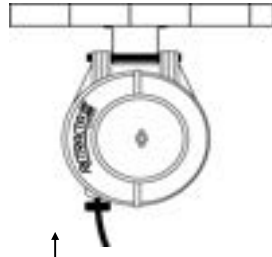

Fig.2 Overhead mounting (max height 4.5m)
2) To prevent the reel from pivoting in the overhead position (figure 2). Install locking bracket supplied.